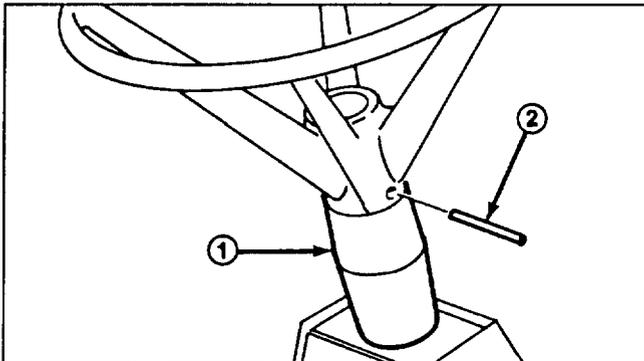

Figure 2
2. Slip steering wheel over shaft and line the steering wheel mount hole with the shaft mounting hole (Fig. 2). Toro Logo should be readable from operator's position.
4. Drive the roll pin in until it is flush with the outside of the wheel (Fig. 2).